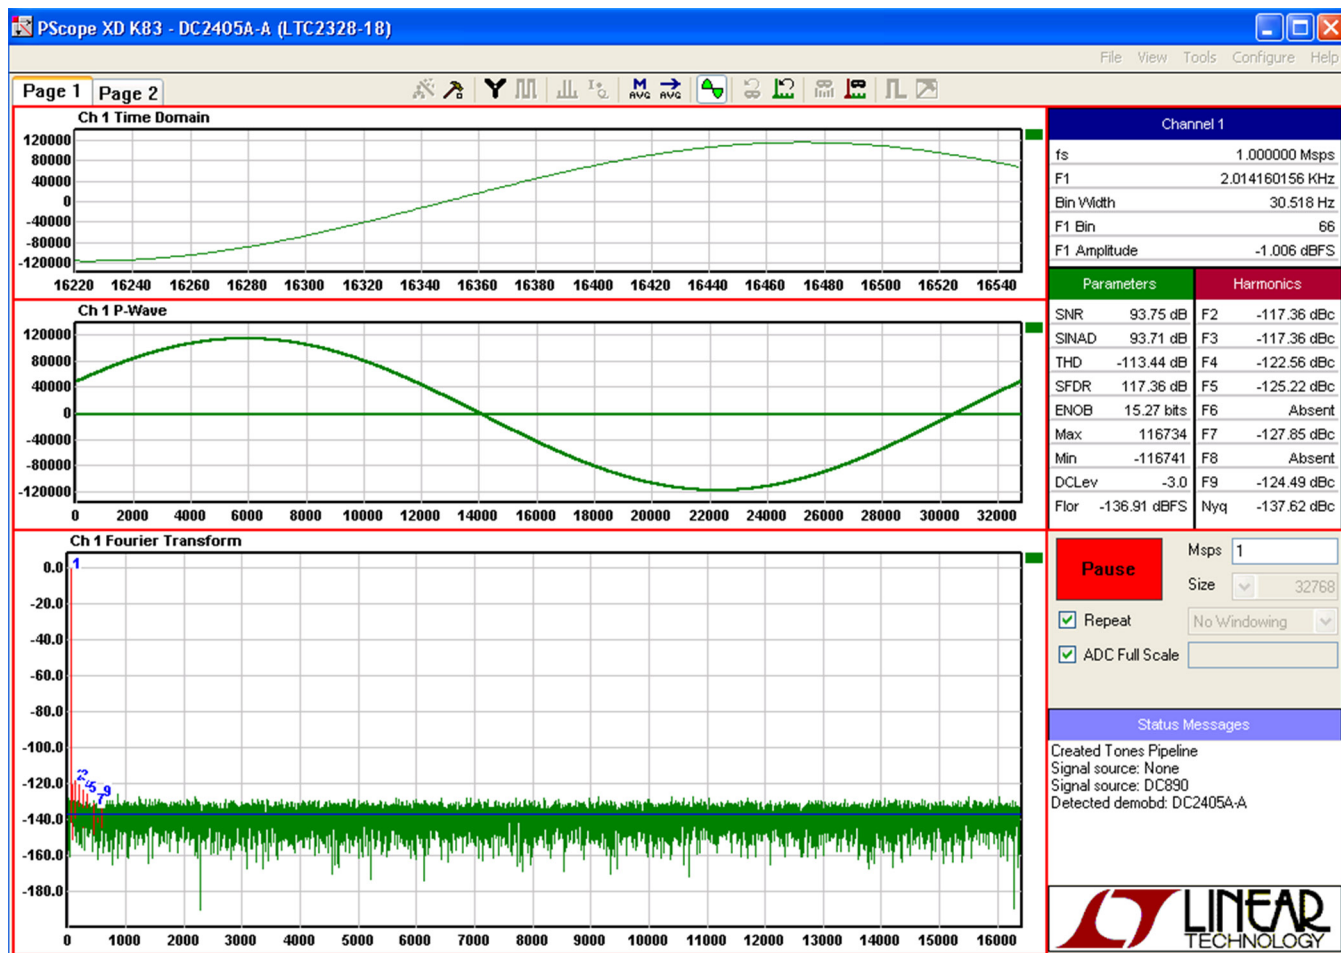

Figure 2. PScope Display Capturing 2kHz Input Tone
7. Click the Collect button (see Figure 2) to begin acquiring data. The Collect button then changes to Pause, which can be clicked to stop data acquisition.
The DC2405A analog input AIN is a single-ended input referenced to GND2. AIN has a high input impedance buffer (LT1468) before the LTC2328-18 ADC. The default setup for the DC2405A requires that AIN be driven with a low noise, low distortion generator for SINAD, THD, or SNR testing. Use an analog source such as the Stanford Research DS360 or SR1. Synchronize the clock source to the analog source through an external reference input to generate SNR and SINAD results similar to Figure 2 without windowing.
This demo board is tested in-house by attempting to duplicate the FFT plot shown in Figure 2. This involves a 100MHz clock source synchronized with a reference clock to an SR1 sinusoidal generator. The SR1 sinusoidal generator is set at a frequency of 2.01416kHz. The input signal level is approximately -1 dBFS. A typical FFT obtained with DC2405A is shown in Figure 2. Note that to calculate the real SNR, the signal level (F1 amplitude = -1.006 dB) has to be added back to the SNR that PScope displays. With the example shown in Figure 2, this means that the actual SNR would be 94.76dB instead of the 93.76dB that PScope displays.